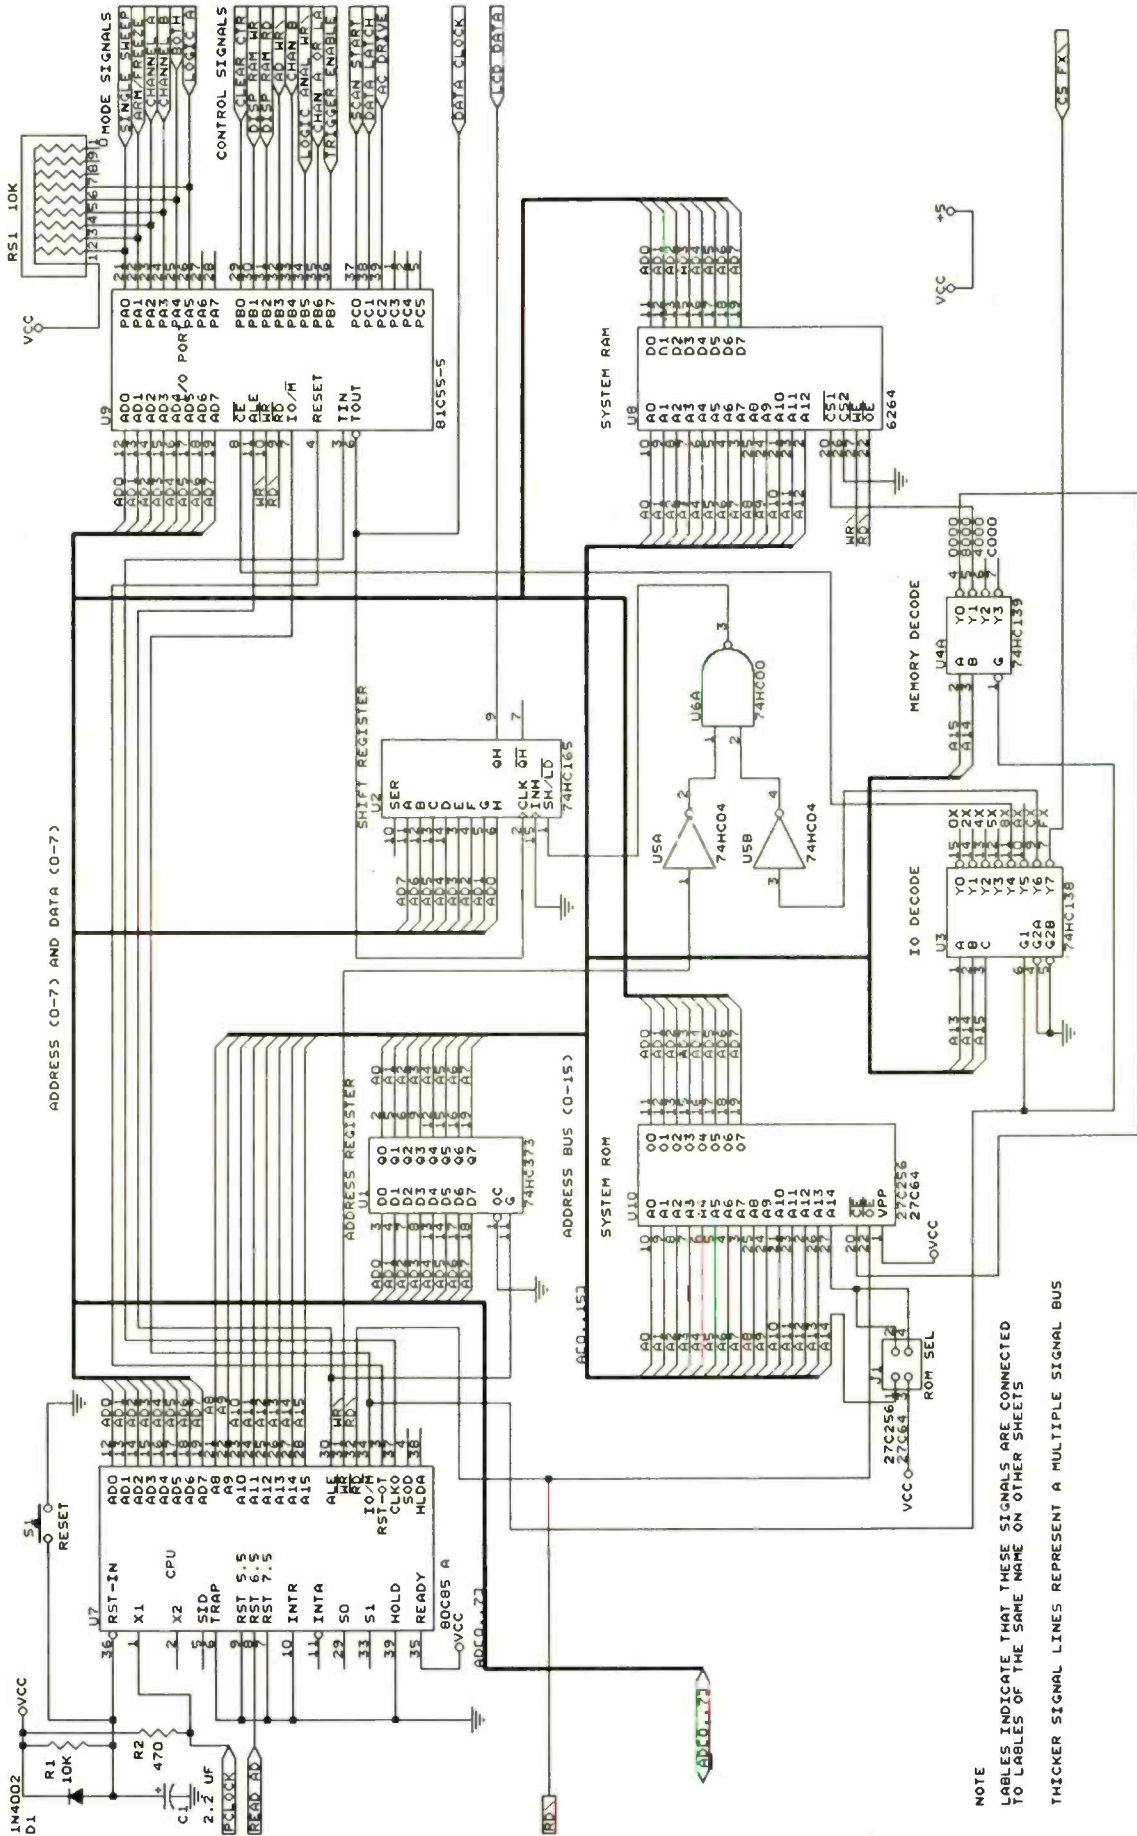

Fig. 2. Schematic details of system CPU circuitry.
- **CPU:** The system CPU selected for our DSO is a high-speed CMOS version of the 8085. It has the advantage of requiring a minimum of current and is capable of operating with a 10-MHz clock input. High speed is a necessity to meet the refresh requirements of the display. Also, the system needs only a minimal amount of support chips (see Fig. 2).
- **Memory & I/O Address Decoders:** The 74HC139 (U4A in Fig. 2) is a memory map decoder. This chip produces a low-level output at pin 4 whenever the CPU wants to "talk" to system RAM. A low level at pin 5 is generated when the CPU is reading an instruction or data from the system's program ROM. Exactly how these decoders work will be part of one of the experiments you will be conducting in an upcoming issue. The I/O decoder, a 74HC138 (U3), operates in much the same manner, except that when the CPU is addressing an input or output port, the selected port will get a signal from the I/O decoder, which connects the port to the system's data bus. This simple